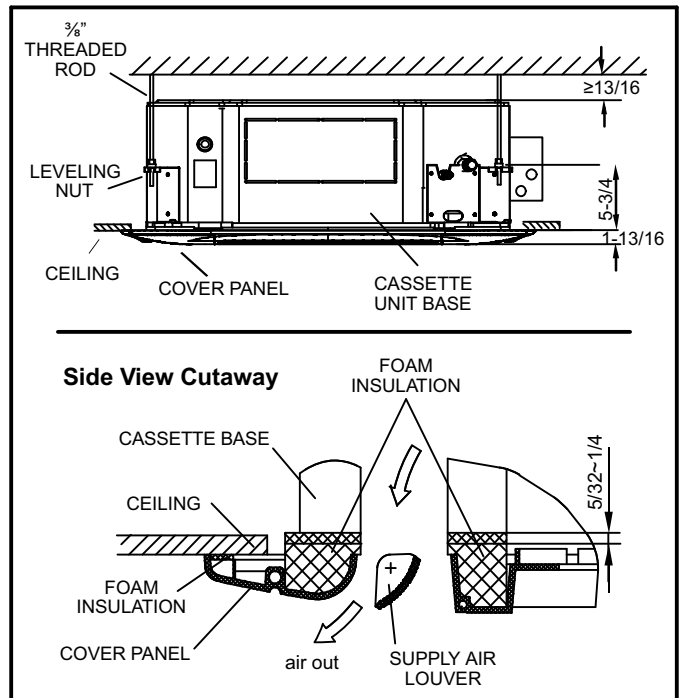

Figure 16. Cover Panel in Place
- 10 - Continue to tighten the cover panel securing screws until the insulation between the cover panel and the cassette base has been compressed to approximately $\frac{1}{4}$ ". The cover panel must form a seal with the ceiling and the cassette base around the entire perimeter of the unit. See figure 16.